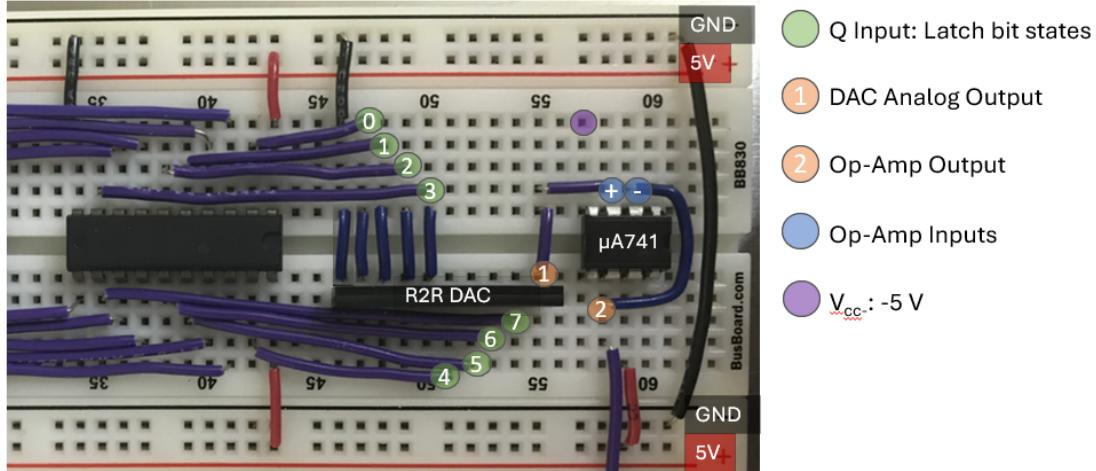

Figure 22.5: Setup of DAC on breadboard, consisting of a resistor ladder and an op amp
- I connected the Q output bits from the latch to the resistive network in increasing order, as seen in Figure 22.5. I grounded one end of the resistive network and read the output voltage from the pin on the far side of the resistive network.